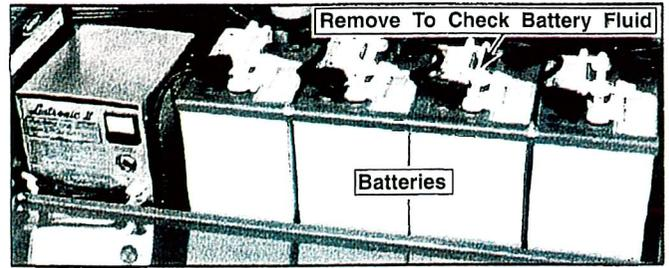

Figure 6: Chassis Power Module, Left Side
Check battery fluid level daily (Figure 6), especially if work platform is being used in a warm, dry climate.
1. Check battery fluid level (Figure 6). If electrolyte level is lower than  $\frac{3}{8}$  in. (10 mm) above plates add distilled water only.